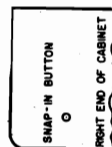

FIG. 1
2. Remove the four screws that hold the plate through which the push buttons protrude, and remove the plate. (This plate is called the "escutcheon".) If your radio is a table model (not a console), remove the snap-in button at the right side of the cabinet. See Fig. 1.